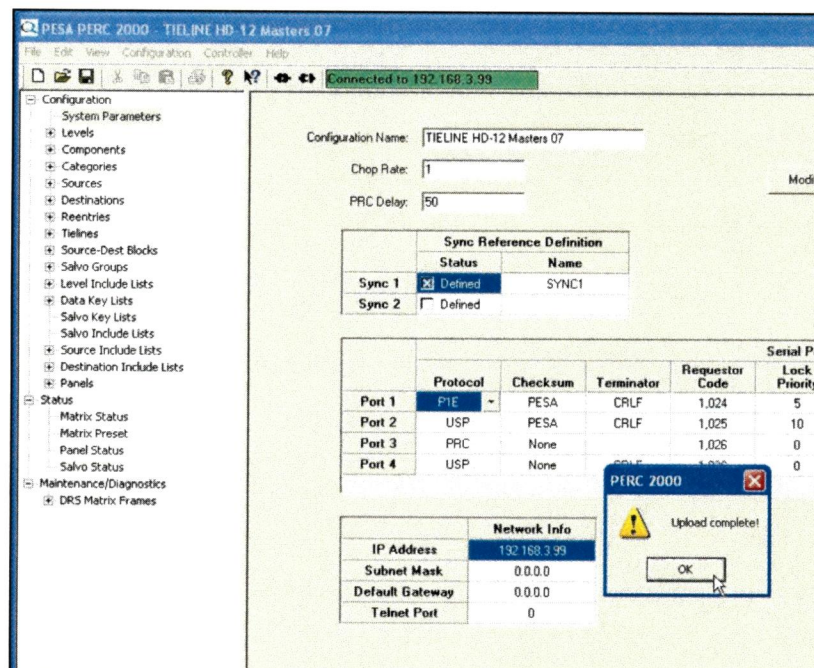

Figure 7. Upload Complete Dialog Box
5. Once the configuration file is uploaded to the PC, the dialog box shown in Figure 7 will appear. Click **OK** to clear the box.